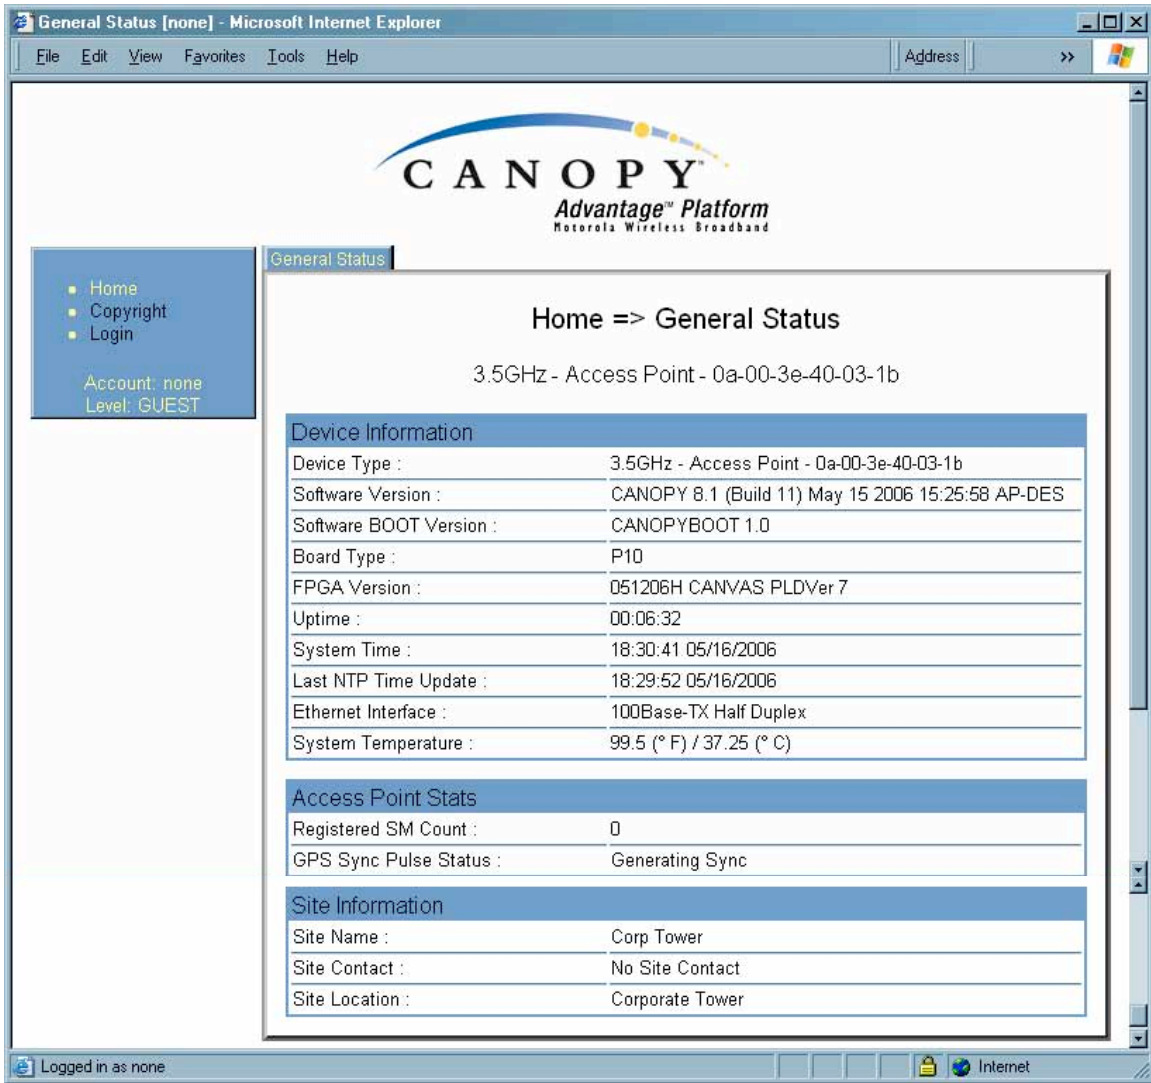

Figure 138: General Status tab view for GUEST-level account
- **GUEST**, who has no write permissions and only a limited view of General Status tab, as shown in Figure 138, and can log in as a user.
After a password has been set for any ADMINISTRATOR-level account, initial access to the module GUI opens the view of GUEST level (Figure 138).